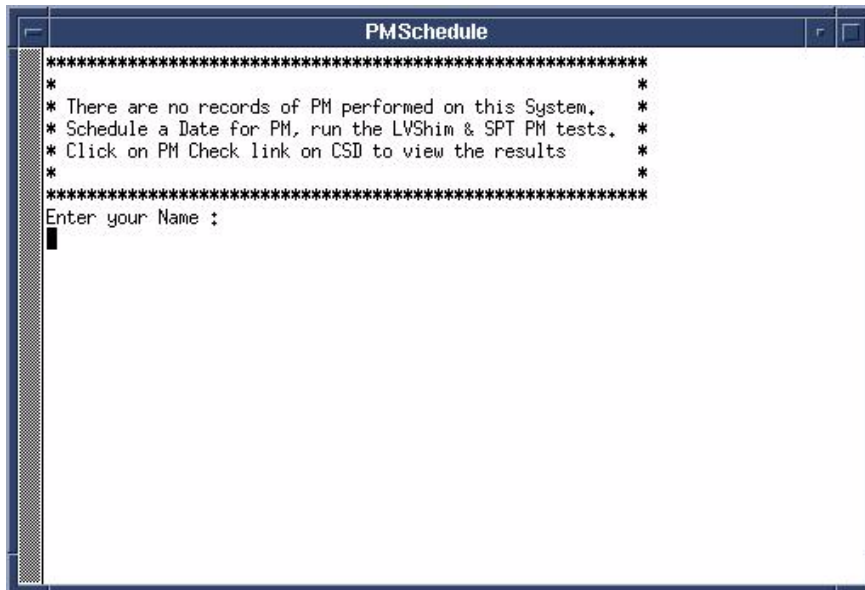

Figure 22
3. Press the Enter key **Figure 22**
4. Enter The Next scheduled PM date **Figure 22**